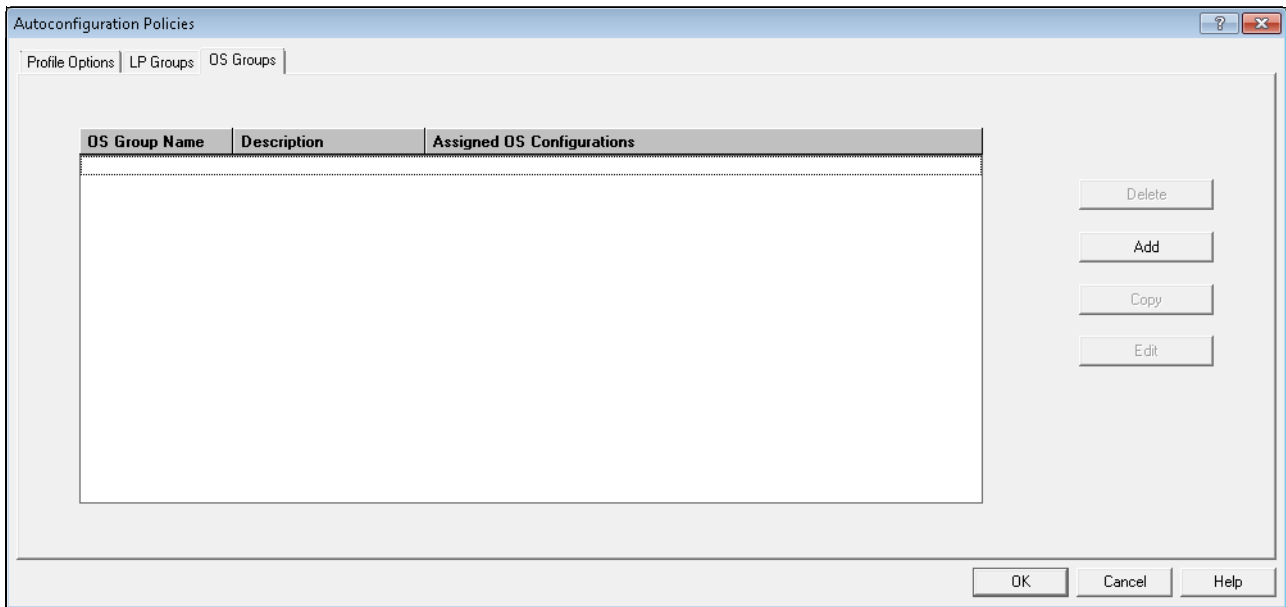

Figure 4-45 HCM - Autoconfiguration Policies: OS Groups with nothing defined
1. Click the **OS Groups** tab (Figure 4-45). This window shows that there are currently no OS groups defined in this policy. Click **Add**.